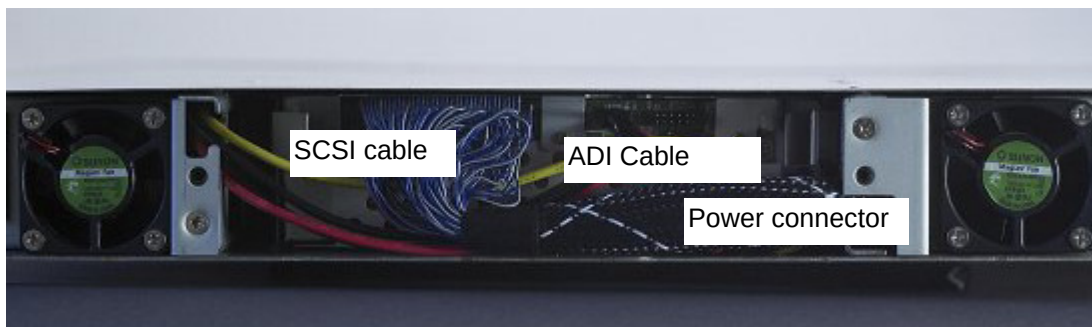
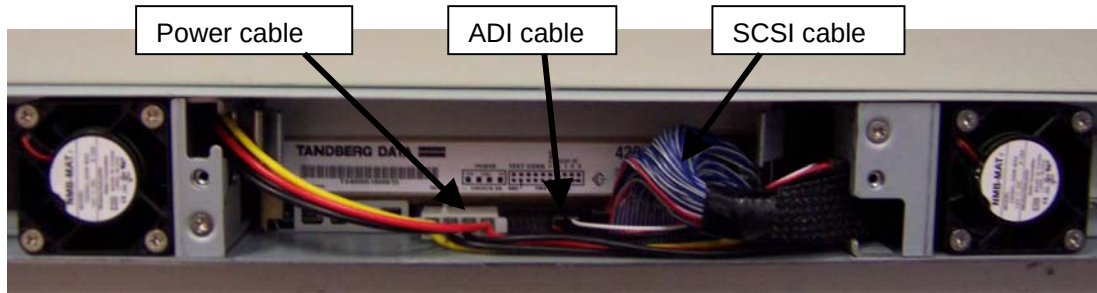

Figure 6.4 Rear of the tape drive
Figure 6.9 Rear of the tape drive
- Remove back-panel cover plate (Figure 6.3) and check if cables are connected properly (see Figure 6.4 and Figure 6.9).